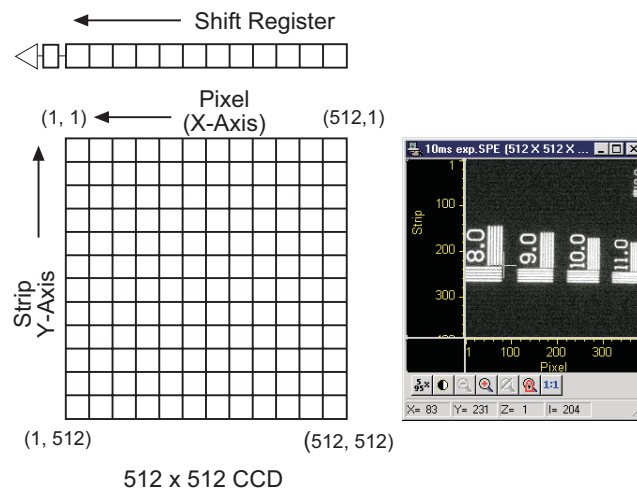

Figure 86. Assumed CCD Array Orientation
2. References to X and Y axes assume that the shift register is parallel to the X-axis and that the data is shifted to the shift register in the Y direction. See Figure 86 below.